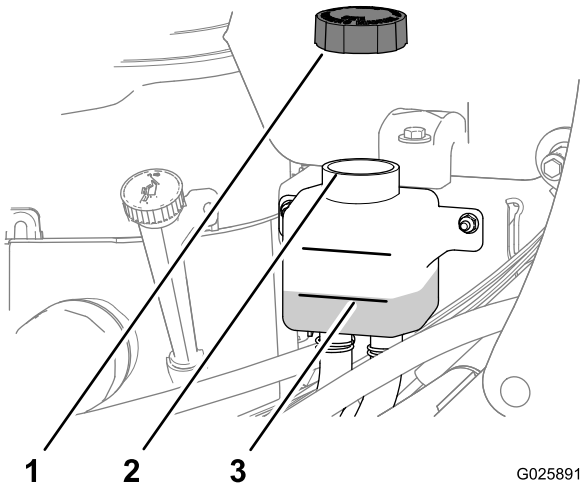

Figure 5
3. Check the hydraulic-oil level in the expansion tank (Figure 5).
4. If necessary, add the specified transmission oil until the oil level is at the Full Cold line of the expansion tank (Figure 5).